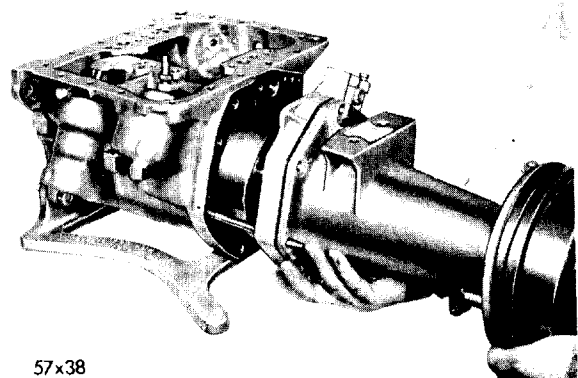

Fig. 41—Removal of Output Shaft Support, Extension, Handbrake Assembly and Pinion Carrier Housing as an assembly
(1) Remove the screws and lockwashers from the transmission extension and install guide studs, Tool C-3283.
(2) Remove the output shaft support to case screw and washer and remove the extension housing (with brake assembly), output shaft support and planet pinion carrier housing as one assembly as shown in Figure 41.
(3) Slide the direct clutch piston retainer from torque converter reaction shaft (it is unnecessary to remove it from transmission case) and remove the direct clutch retainer thrust washer.
(4) Using a micrometer, measure the thickness of